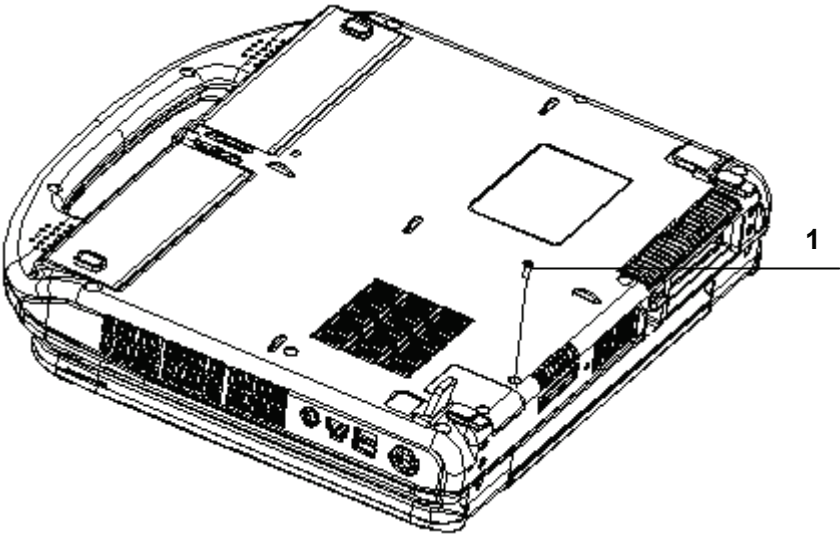

Figure 4-30 Removing Main Board and Transducer Board (1)
- 1) Remove one M3X8 screw as shown in Figure 4-30.